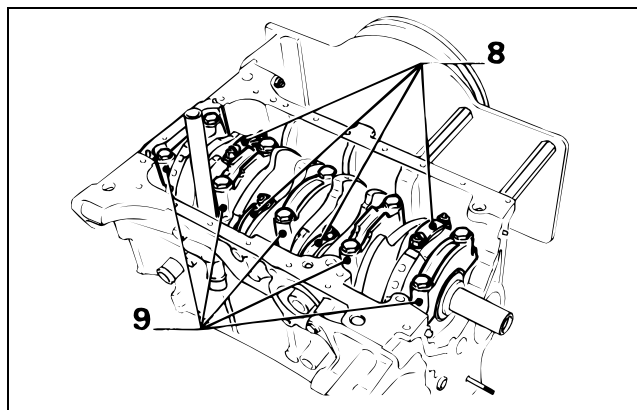

Figure 62
2. Remove the connecting rod end caps (Fig. 62, Item 8), marking each cap for re-installation in the same location.